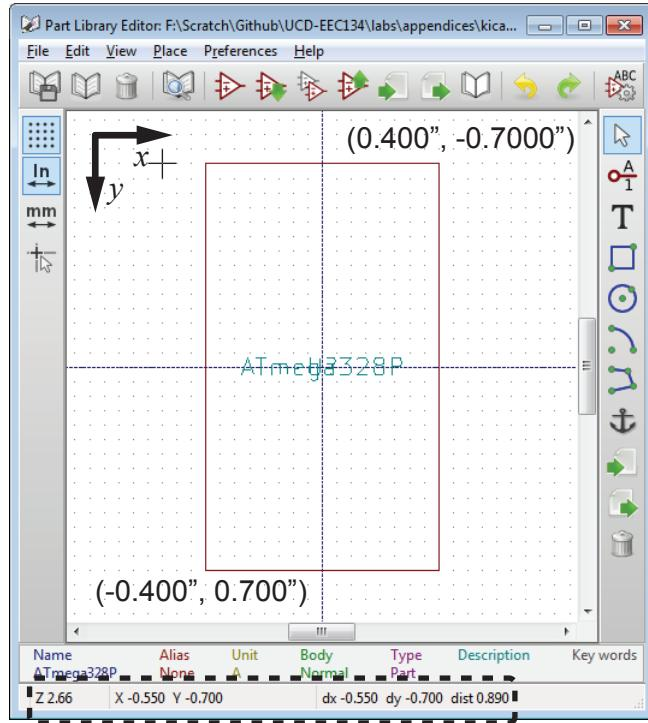

Figure 11: Drawing a rectangle in the library editor main window with the help of the built-in coordinate system.
6. Click the “Add graphic rectangle to the component body” button , and use the mouse cursor to draw a rectangle from ($x = -0.400"$, $y = 0.700"$) to ($0.400"$, $-0.700"$) (Fig. 11). The current position of the cursor is displayed at the bottom of the main window. Notice that the positive direction of the y —axis points downward.